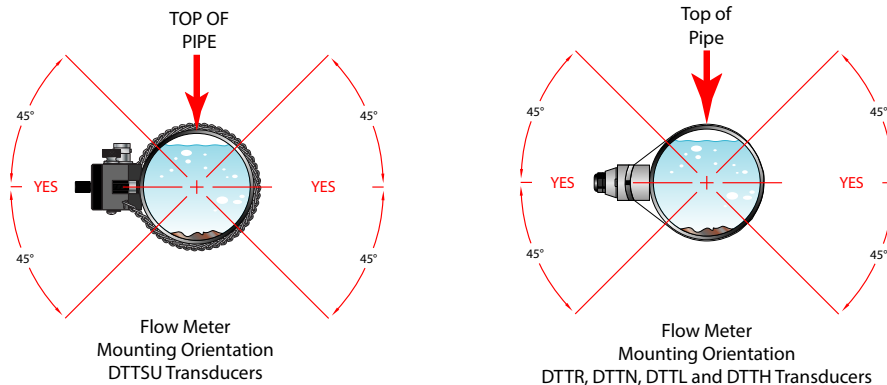

Figure 18: Transducer orientation for horizontal pipes
2. Orient and space the transducers on the pipe to provide optimum reliability and performance. On horizontal pipes, when Z-Mount is required, mount the transducers 180 radial degrees from one another and at least 45 degrees from the top-dead-center and bottom-dead-center of the pipe. See Figure 18 on page 20. Also see "Z-Mount Installation" on page 23. On vertical pipes, the orientation is not critical.
3. Crease the paper at the fold line. Mark the crease. Place a mark on the pipe where one of the transducers will be located. See Figure 18 for acceptable radial orientations. Wrap the template back around the pipe, placing the beginning of the paper and one corner in the location of the mark. Move to the other side of the pipe and mark the pipe at the ends of the crease. Measure from the end of the crease (directly across the pipe from the first transducer location) the dimension derived in “Select a Mounting Configuration” on page 19. Mark this location on the pipe.